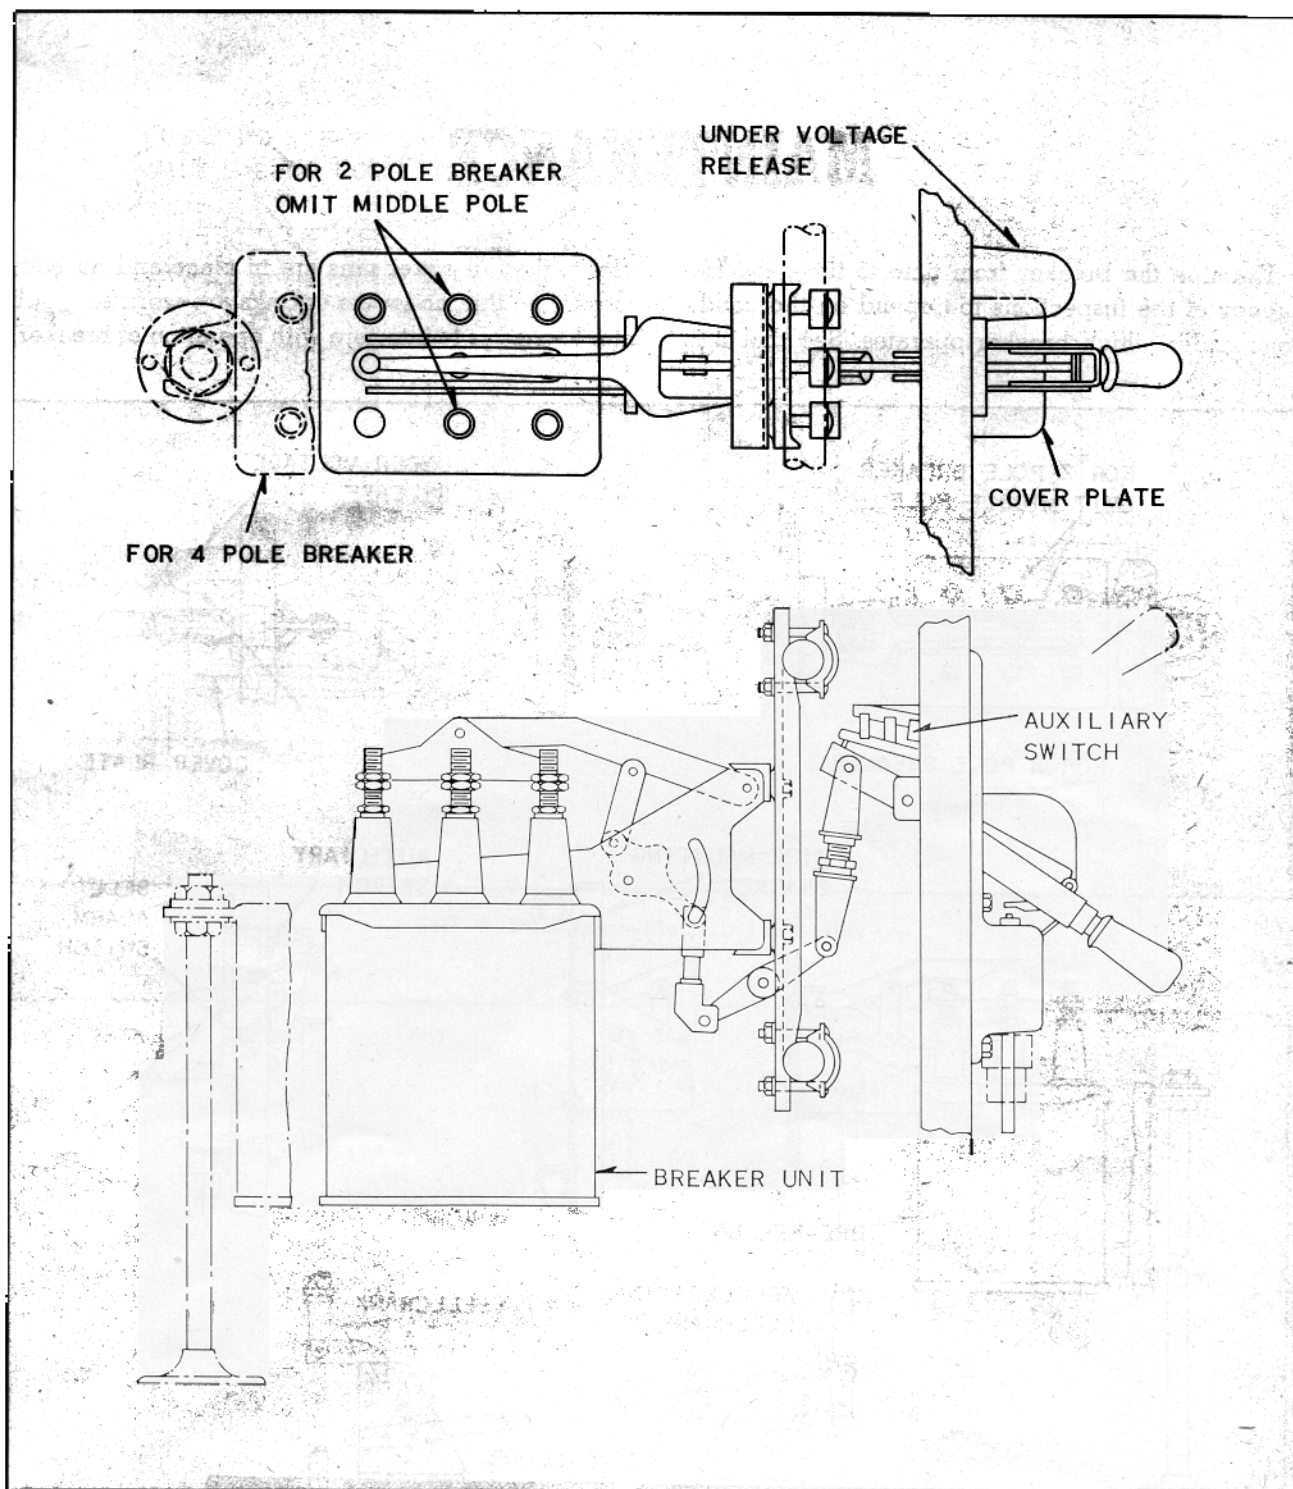

FIG. 7. Panel Frame Mounting Assembly
7. If breaker unit is to be carried on panel mounting brackets back of and off of switchboard, the assembly will be as in Fig. 7.